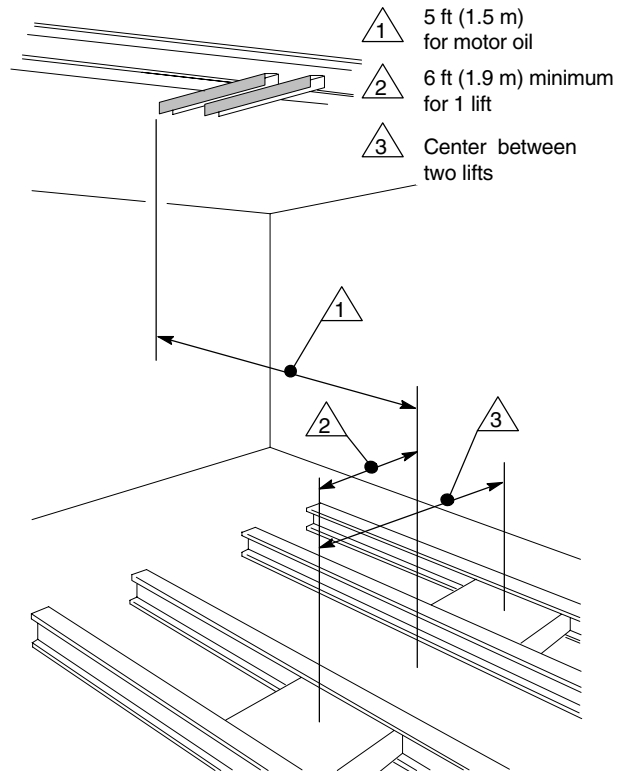

Fig. 3
- b. A reel mounted in a one-lift service bay should be at least 6 ft (1.9 m) from the center line of the lift. See Fig. 3.
- c. In a two-lift bay, mount the reel between the lifts and an equal distance from each lift. Oil reels should be mounted about 5 ft (1.5 m) from the center of the lift, toward the front of the lift rails. See Fig. 3.